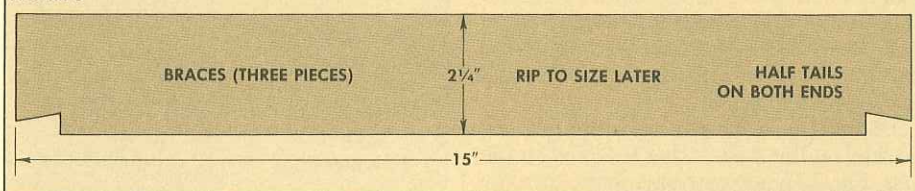

FIGURE 6
**THE HALF-PINS.** Once the half-tails are cut on the braces, hold the end of the brace on the front legs to mark the cut line for the half-pin notches, Fig. 6. I used a dovetail saw to saw down both cut lines. Then I cleaned up the saw marks with a paring chisel (using it just like a hand-held plane).